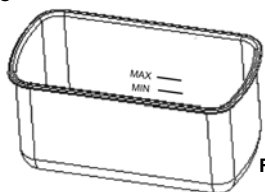

Fig. 4
1. Pour cooking oil into the oil reservoir making sure that it is between the “Min” and “Max” fill lines in the oil container. **Do not under fill or overfill.** The oil levels must be maintained between the minimum (2 liters) and the maximum levels (3 liters) marked inside the oil container. (Fig. 4)